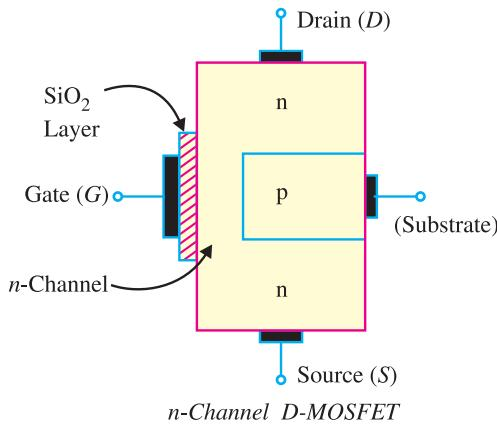

Fig. 19.43
1. D-MOSFET. Fig. 19.43 shows the constructional details of *n*-channel *D-MOSFET*. It is similar to *n*-channel *JFET* except with the following modifications/remarks :
(i) The *n*-channel *D-MOSFET* is a piece of *n*-type material with a *p*-type region (called *substrate*) on the right and an *insulated gate* on the left as shown in Fig. 19.43. The free electrons (Q if *n*-channel) flowing from source to drain must pass through the narrow channel between the gate and the *p*-type region (*i.e.* substrate).